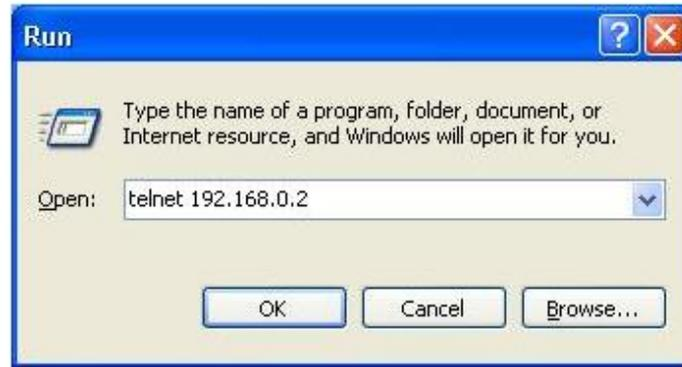

Figure 19 Access through Telnet
2. Input "*IP address*" in the browser address bar (Default ip: 192.168.1.2). After opening the login dialog box, enter the default user name (admin) and default password (123) to successfully log in to the device Web management page.
Step 2: Enter "telnet IP-address" in the Run dialog box, as shown in Figure 19. The default IP address of a Kyland switch is 192.168.0.2.